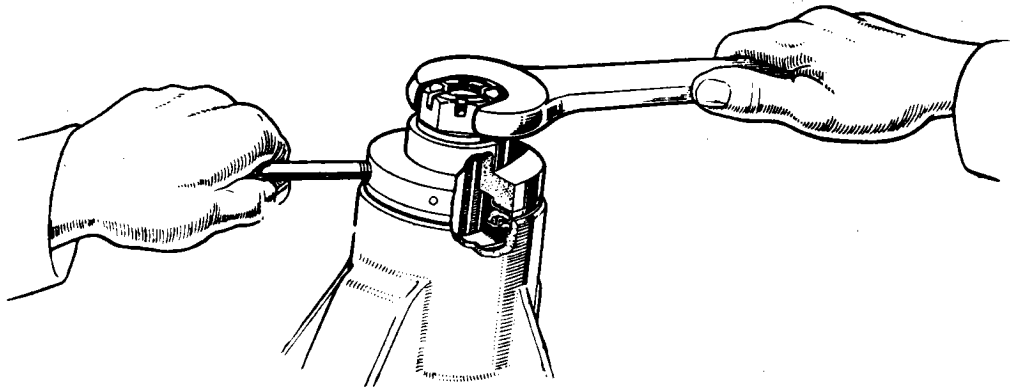

Fig. 38. Fitting the pinion oil seal using Churchill tool SL 4 P/B
- (1) Remove the drive pinion nut, washer and companion flange.
- (2) Install the oil slinger, and then fit the pinion oil seal assembly, using Tool No. SL4P/B, as shown in Fig. 38. Place the oil seal with the dust excluder flange uppermost (not omitting the oil seal gasket used with the metal case type seal on later models), fit the installation collar, Tool No. SL.4P/B, and then tighten down the pinion nut and washer to drive the assembly home. Remove the installation collar.
- (3) Fit the companion flange, washer and pinion nut, tighten securely.
- (4) Fit the rear cover gasket, renewing it if required, and rear cover, securing same with set bolts and lock washers, not omitting the ratio and "Powr Lok" tags which are attached by the set bolts.
- (5) Check that the drain plug is securely tightened, then fill with the appropriate quantity of one of the hypoid lubricants recommended on page H.5
- (6) Replace the filler plug and check that the cover set bolts are tight.
- (7) Check for oil leaks at the cover, pinion oil seal and where the differential cap bolt holes break through.
- (8) Replace brake disc and caliper, centralising the caliper by means of the round shims (as described in Section L "Brakes"). Fit new tab washers, tighten the mounting bolts to 55 lb.ft. (7.6 kgm.) torque and secure the bolt heads with the tab washers.